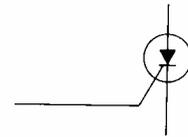

FIG. 1
5. The symbol shown in Fig. 1 is a: